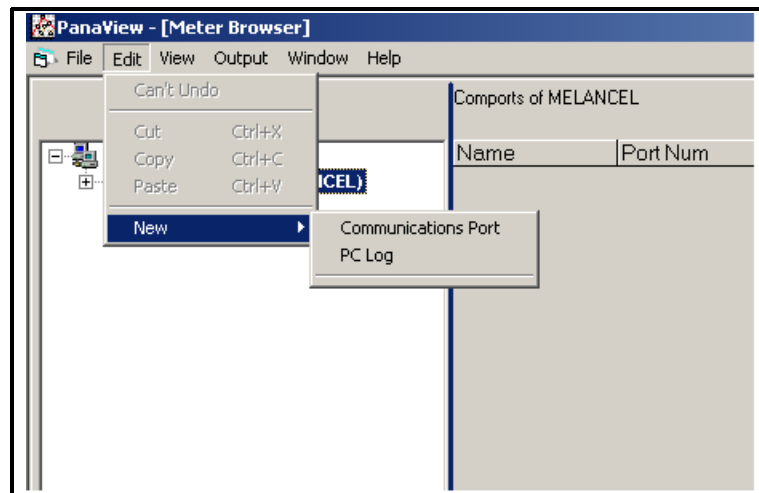

Figure 2: The Edit Menu
3. Click on the “New” menu option to select it, and a submenu opens with two choices on it (see Figure 2 below).